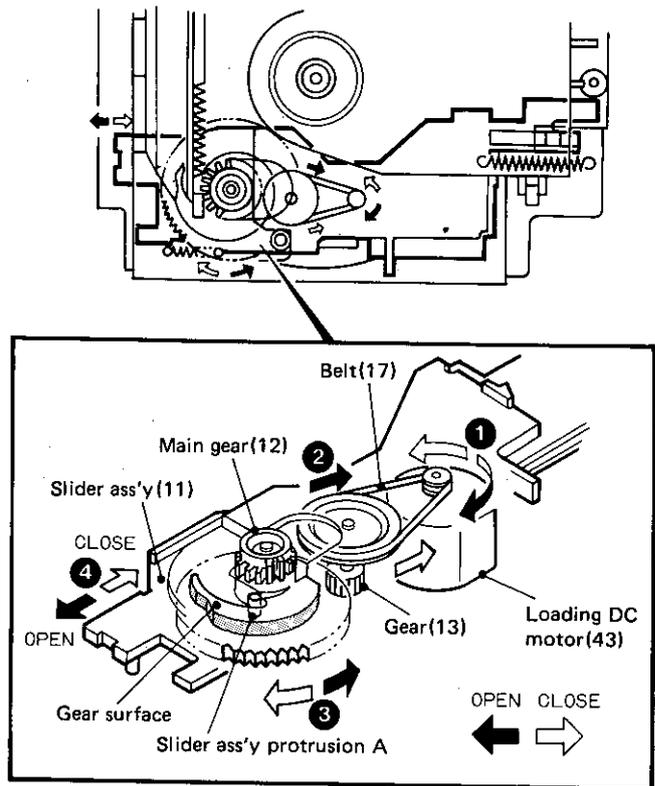
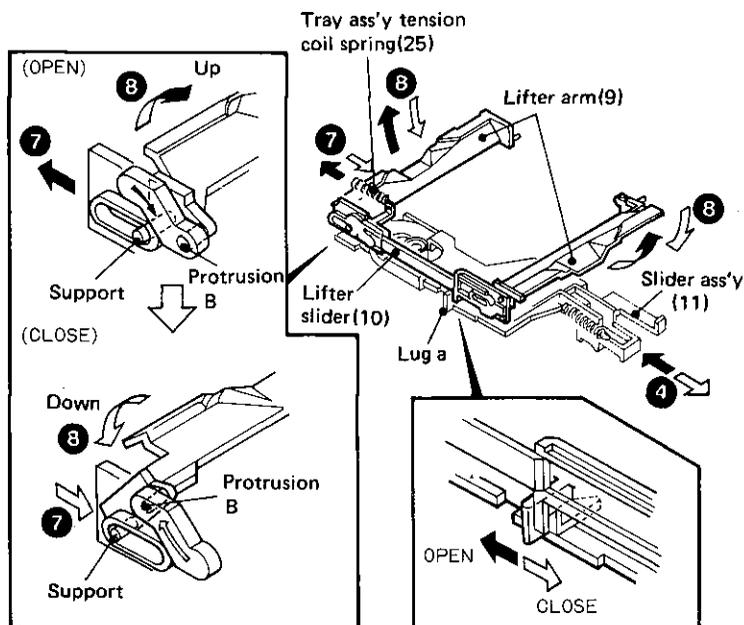

Fig. 2 Loading motor rotation transmission
Fig. 5 Lifter arm up/down operation
As shown in Fig. 2, loading DC motor (43) rotates in the direction of the black arrow ① and transfers the rotation of the black arrow ② to the gear (13) via the belt (17), and also rotates the main gear (12) in the direction of the black arrow ③ with the lower gear section of the gear (13). The main gear (12) contains the cam on its upper surface. Along with the surface of the cam, protrusion A located in the lower side of the slider ass'y (11) is shifted and the slider ass'y (11) begins to move in the direction of the black-arrow ④.
Fig. 5 shows the OPEN operation until the disc is lifted from the turntable and placed on the disc tray so that the disc is removed from the player. These operations are performed almost at the same time as the up operations of the clamber arm(8) when the tray is opened as described in Fig. 2 to 4 above.